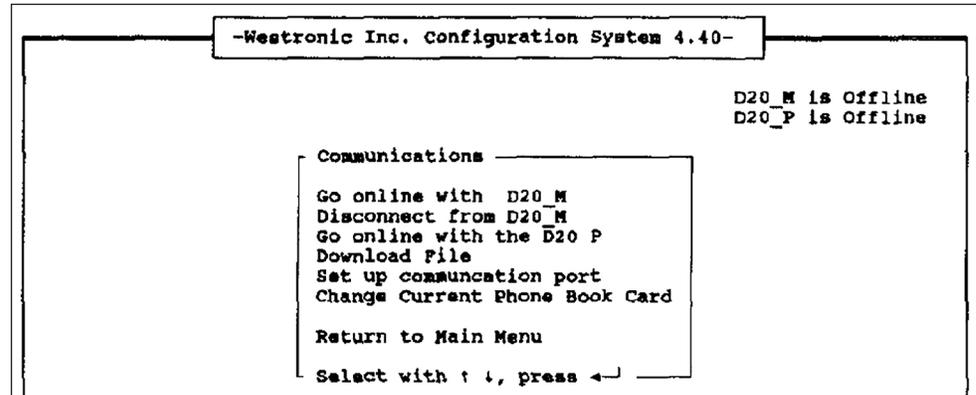

Figure 22. The *Communications* screen.
STEP 17. Using the arrow keys, select the **Communications** option and press the <ENTER> key. The *Communications* screen will open. See Figure 22 on page 18.